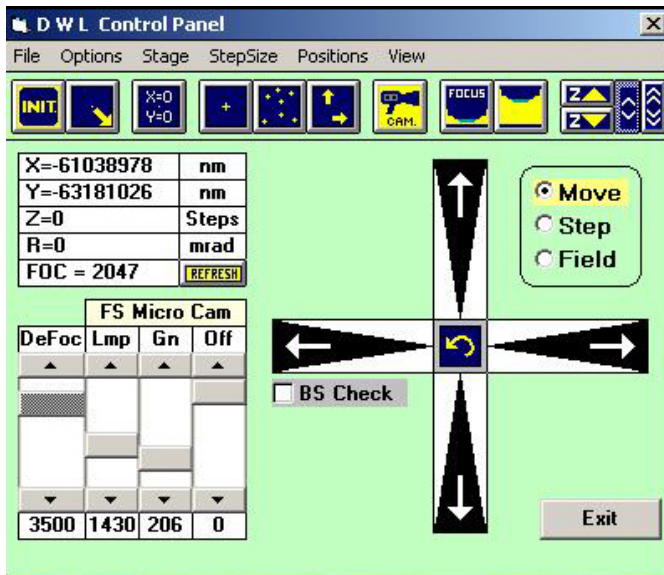

Figure 3-1: DWL Menu control panel
- **DWL MENU:** Open the Control Panel by clicking on the 🛠 icon (figure 3-1).